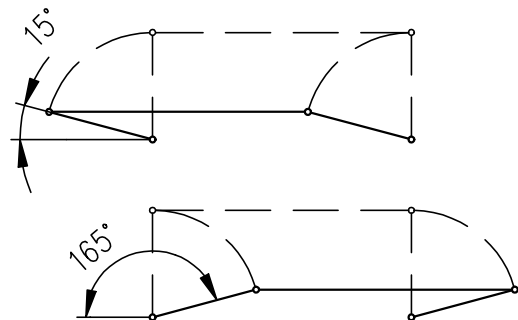

Fig.3
- Angle between the lever and the pull rod at the limit positions shall not be less than 15° and greater than 165° (Fig.3).